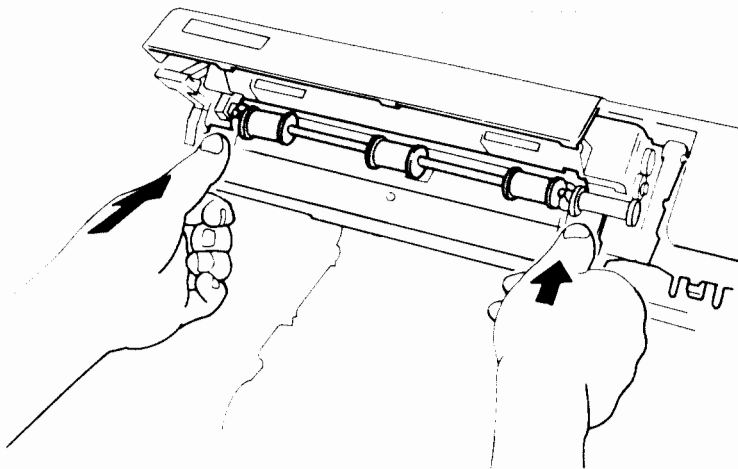

Figure 2-11 Closing the heat roller housing
- d. Tilt the exit roller assembly up as shown in Figure 2-11 and press gently until it snaps shut.